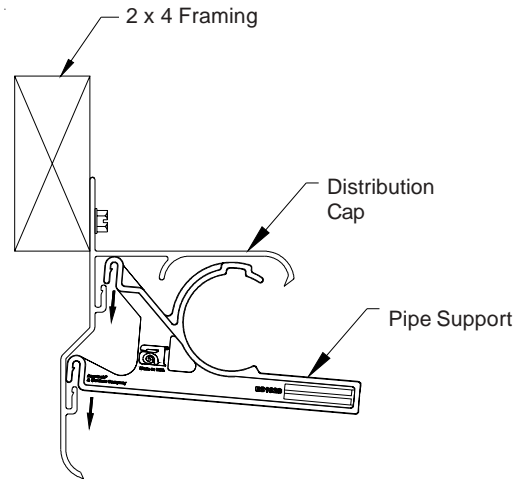

Figure 14A
- 19) Pipe supports snaps onto distribution cap, starting 12" from end, spaced every 24". **See Figure 14A.** Five (5) pipe support brackets per 10' section of distribution cap. Pipe supports can be slid back and forth for proper alignment.